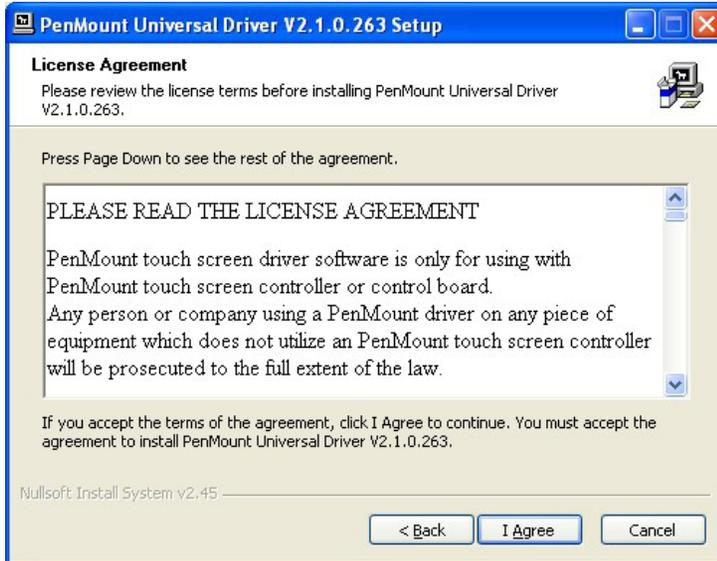

Figure 3-2: Touch Screen Driver License Agreement
Step 5: The **License Agreement** shown in **Figure 3-2** appears.